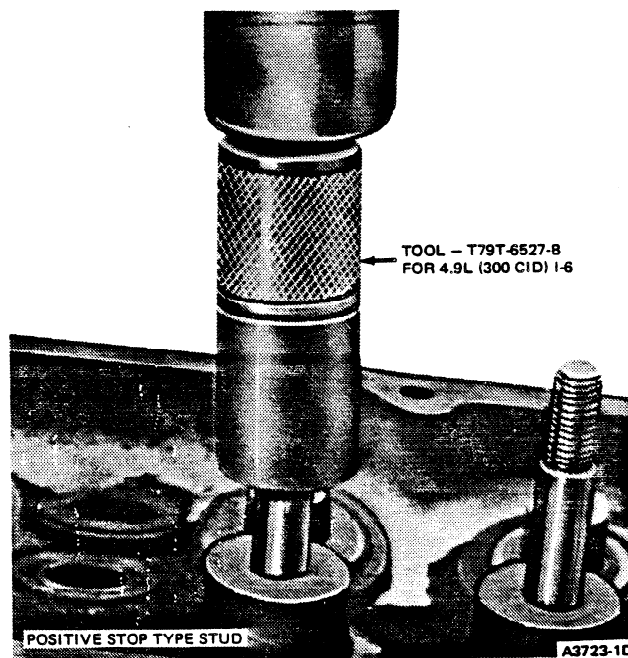

FIG. 6 Installing Rocker Arm Stud — 4.9L (300 CID)
If it is necessary to remove a rocker arm stud, Tool T79T-6527-A (Fig. 4) is available. A 0.006 inch oversize reamer T62F-6A527-B3 and a 0.015 inch oversize reamer T62F-6A527-B5 are available. For 0.010 inch oversize studs, use reamer T66P-6527-B. To press in replacement studs, use stud replacer T79T-6527-B for 4.9L (300 CID) I-6 (Fig. 6).
3. Coat the end of the stud with Ford Polyethylene Grease (DOAZ-19584-A) or equivalent. Align the stud with the stud bore; then, tap the sliding driver until it bottoms (Fig. 6). When the driver contacts the stud boss, the stud is installed to its correct height.